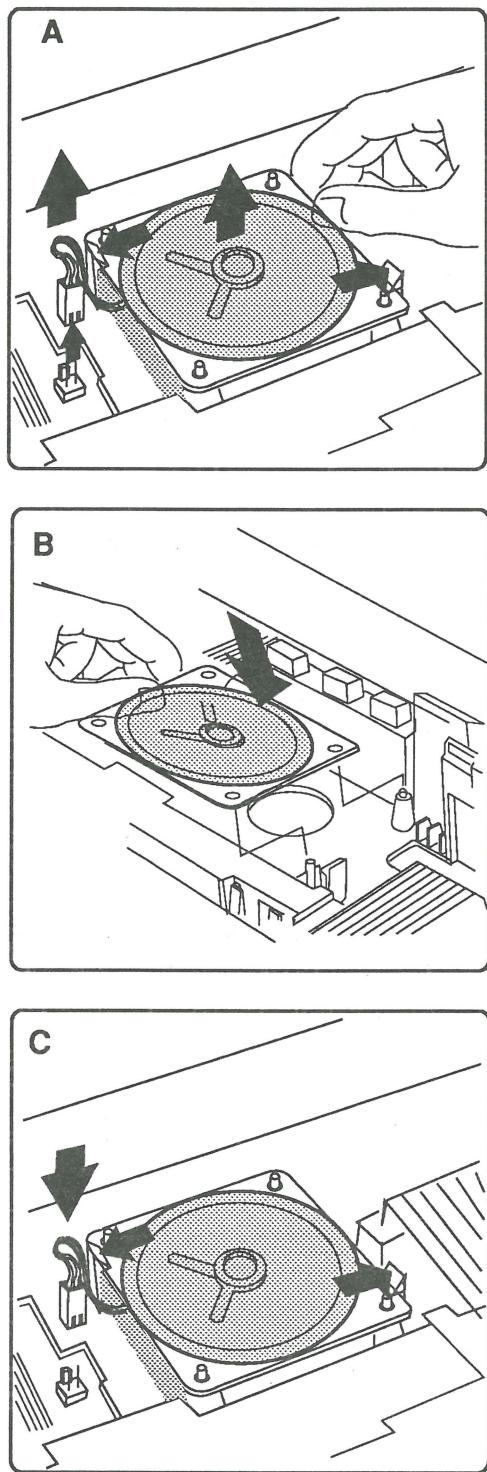

FIGURE 10
2. **Figure 10-A.** Disconnect the speaker cable from logic board connector J16.
3. **Figure 10-A.** Simultaneously press the two plastic tabs away from the speaker and lift the speaker from the subframe.
1. **Figure 10-B.** Place the speaker in position over its four positioning posts and snap the speaker in place.
2. **Figure 10-C.** Connect the speaker cable to logic board connector J16.